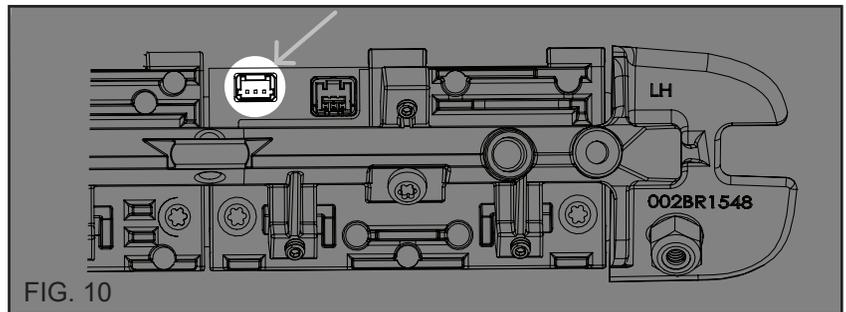
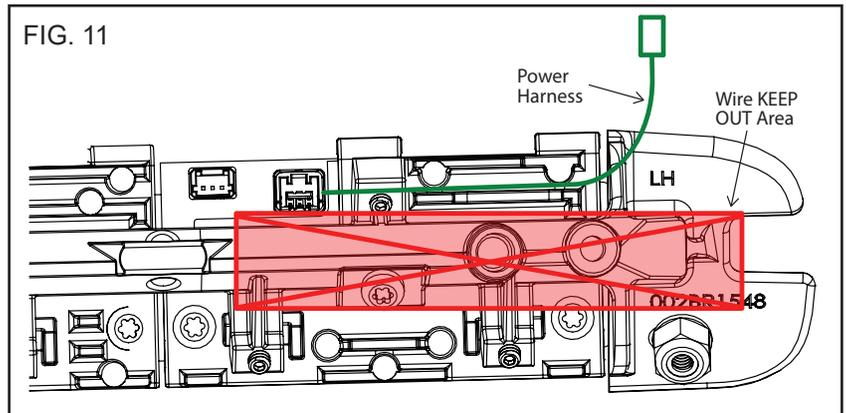
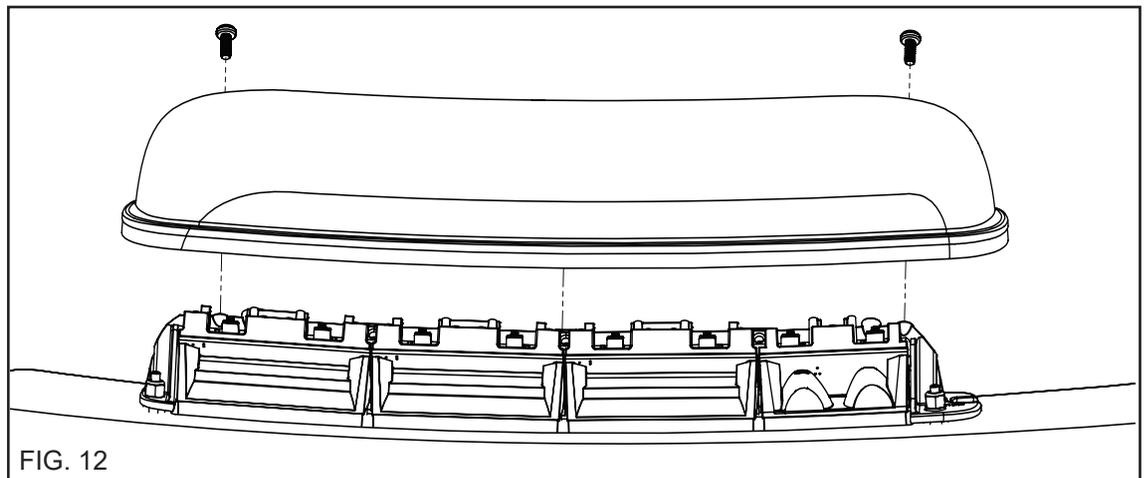

FIG. 10
FIG. 11
FIG. 12
6. Install the Horizon Outer Assembly by plugging in the active cooling fan in the location shown in **FIG. 10**. Route the power harness as shown in **FIG. 11**. Make sure the harness does not get laid in the area with the "X" in **FIG. 11**. Then install the housing using the included 10-32 hardware as shown in **FIG. 12**. The Lightbar Housing Assembly fasteners should be tightened to 10 in-lb.